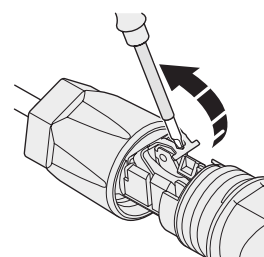

Fig. 46. Opening the retaining bracket.
3. Use a flat head screwdriver to open the retaining bracket on the connector, as shown in Fig. 46.